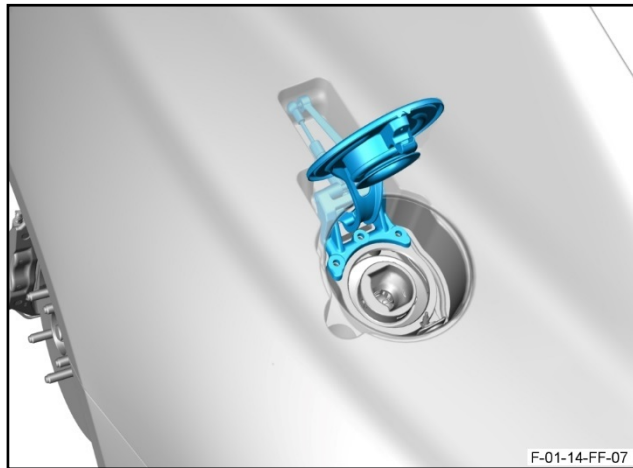

Figure 7
13. Remove the mechanism for the fuel filler door (refer to Figure 7).